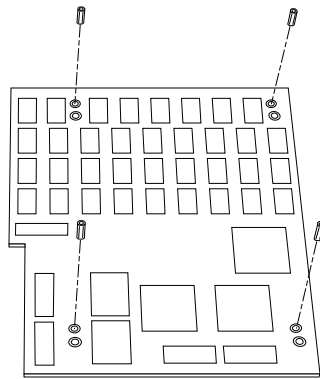

Figure 2-7 Attaching standoffs
- Using the standoff screws from the previous step, screw the shorter standoffs provided in the Galileo Video package into the right-hand hole of each pair of holes in the corners of the ZB4 board. The shorter standoffs are offset from the longer ones between the ZB4 board and the board below it. Figure 2-7 shows the standoffs installed.